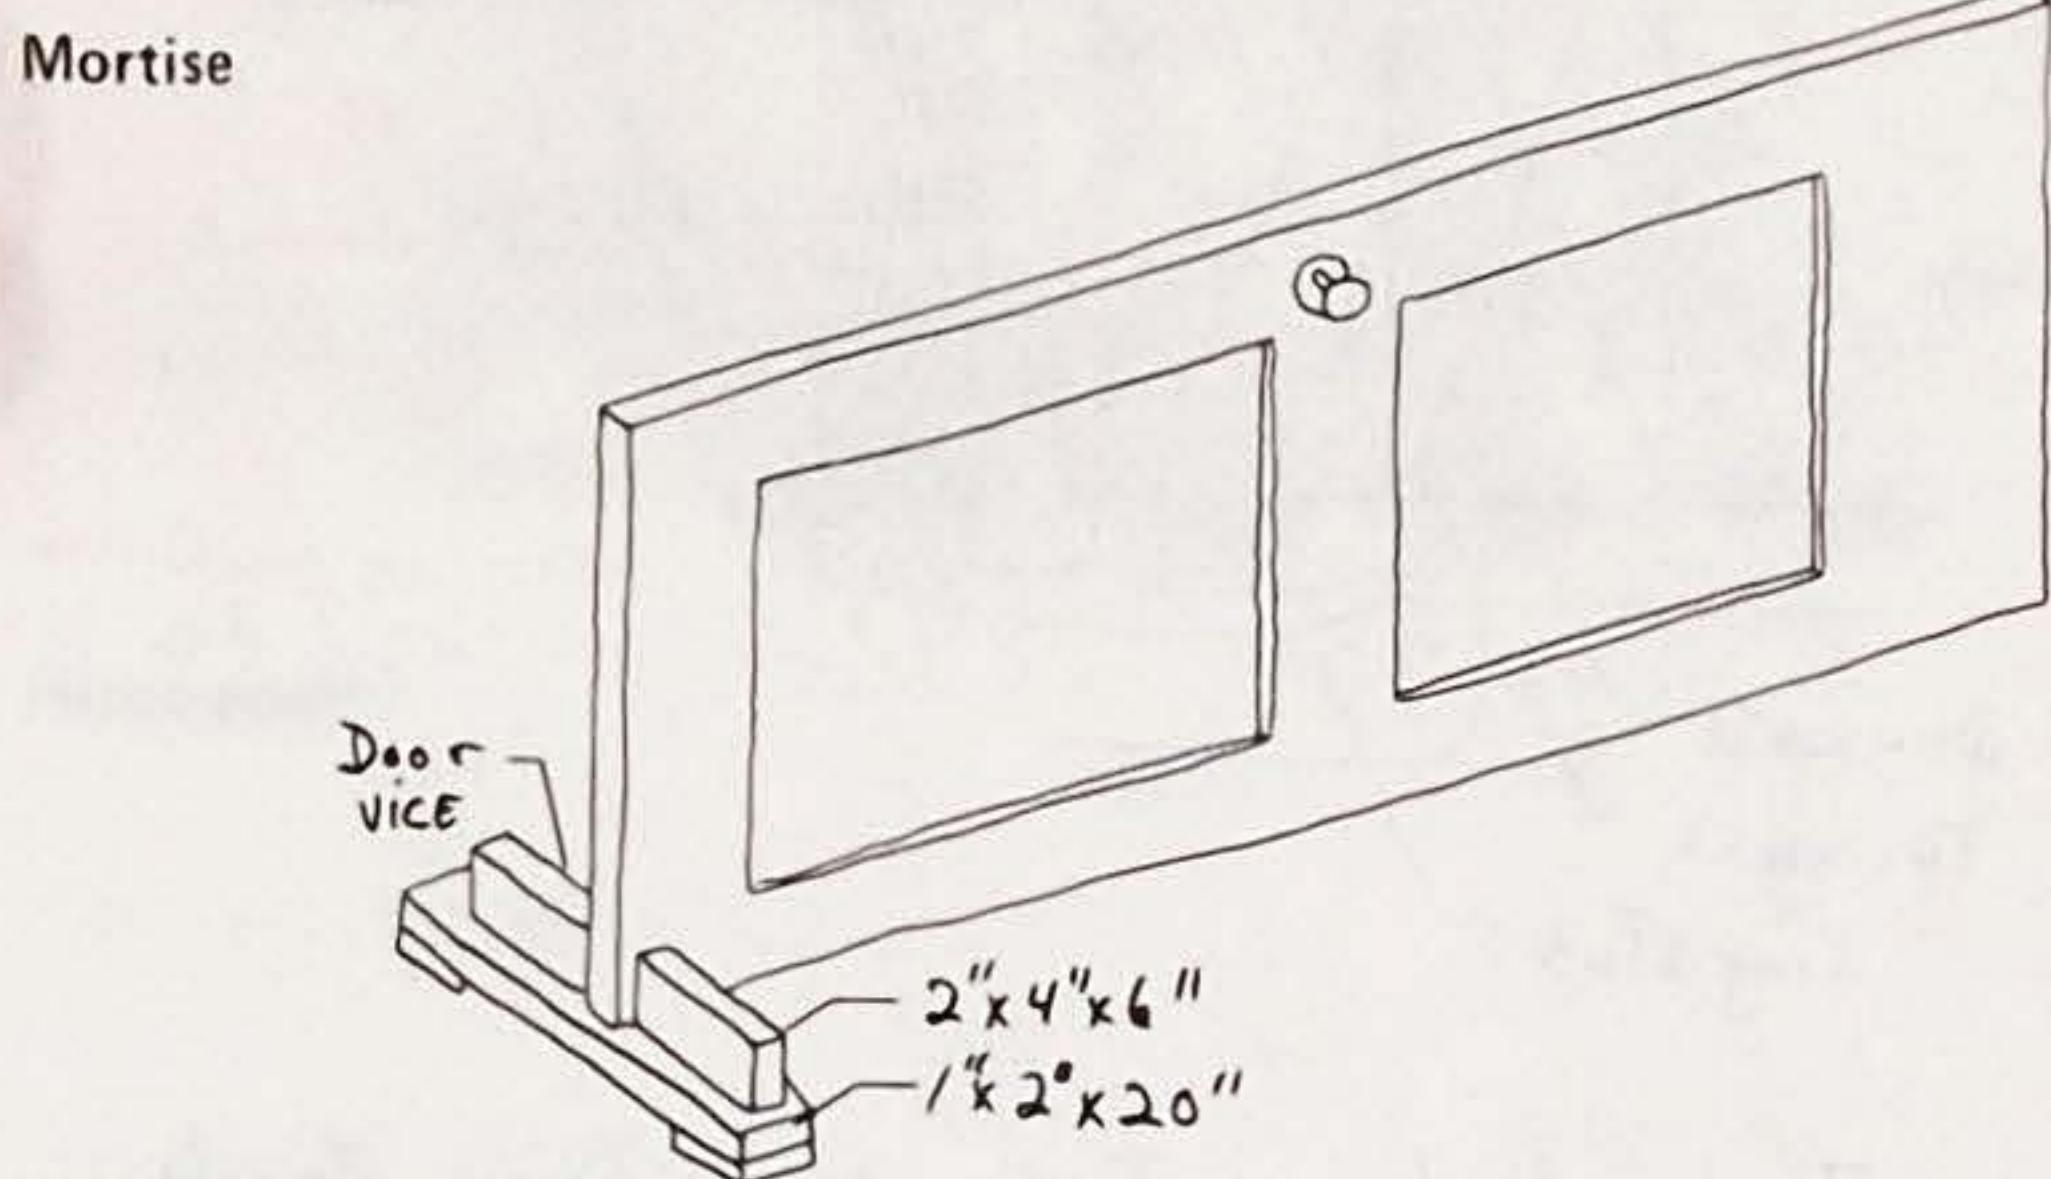

Fig. 7 - HOMEMADE DOOR VICE
2. Lay out the location of the hinges on the length of the hinge side of the door. To do this easily, the door should be standing on its non-hinge edge. Have someone hold it upright or build a door vise. Fig. 7. Measure up from the bottom of the door 11" and down from the top of the door $6\frac{15}{16}$ ". This is the bottom of the bottom hinge and the top of the top hinge, respectively. Measure down from the top mark and up from the bottom mark a distance equal to the length of the leaves of the hinge-- $3\frac{1}{2}$ " or 4". Square these marks across the edge of the door using a small square and a very sharp, hard lead pencil or knife. For heavy exterior doors use